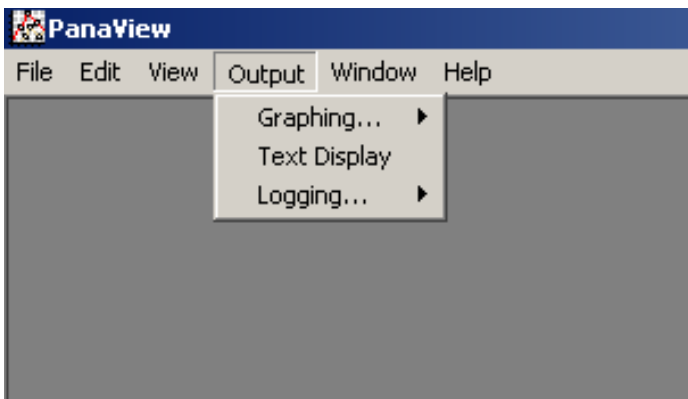

Figure 2: Output menu
To access PanaView's data handling options, pull down the *output menu*, as shown in **Figure 2** below.
2. Pull down the *output* menu and click on the *text display* option. See **Figure 2** on page 24.
- Pull down the *output* menu and click on the *graphing - new* option (see *Figure 2 on page 24*).